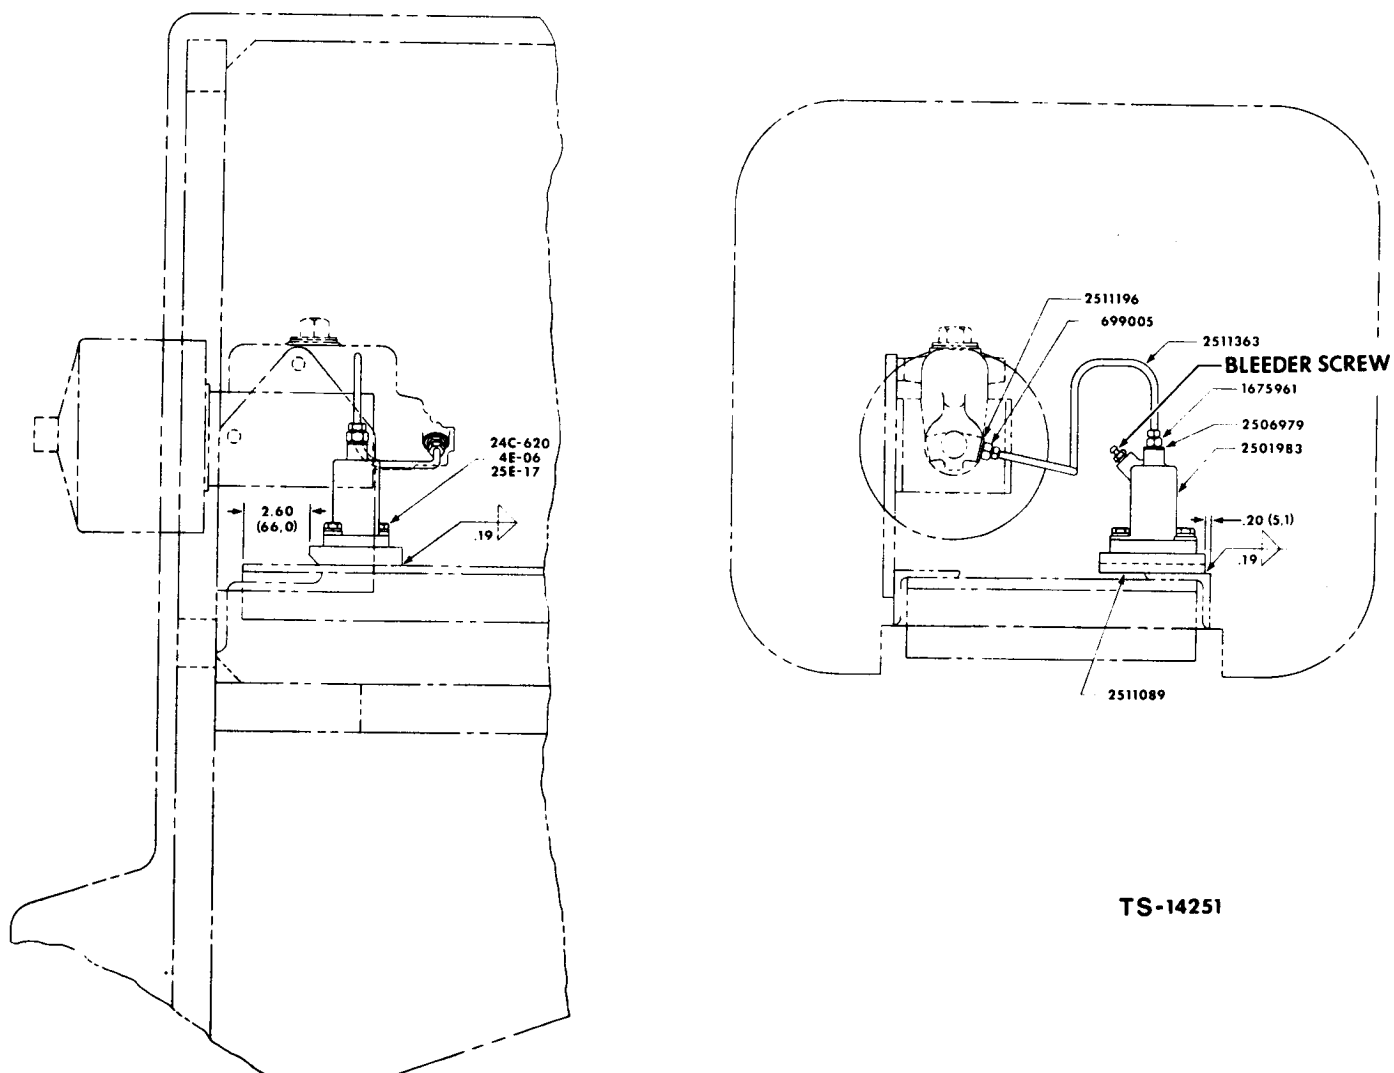

Figure 3
5. Weld 2511089 Mounting Plate to front frame with a .19 inch fillet weld as shown in Figure 3.
6. Install 2501983 Compensator Valve on mounting plate as shown in Figure 3 using two 25E-17 Flatwashers, two 4E-06 Lockwashers and two 24C-620 Bolts. Tighten bolts to 23-25 ft. lbs. torque.
7. Remove plug on outlet section of master cylinder and install 2511196 Gasket and 699005 Adapter as shown in Figure 3.
8. Install 2506979 Gasket and 1675961 Adapter on brake compensator valve as shown in Figure 3.
1. Bleed brake lines and compensator valves to remove all traces of air from the system. Use a bleeder hose wherever possible and proceed as outlined below. See Figures 3 & 4 and Figure 5, Item 1 for location of bleeder screws. A helper will be required.